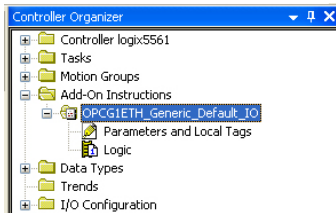

Figure 86: Generic Default IO Add-On Instruction
- 2) Right click on "Add-On Instructions" in the controller organizer view and select "Import Add-On Instruction". Browse and import the generic default I/O add-on instruction. Refer to Figure 86.